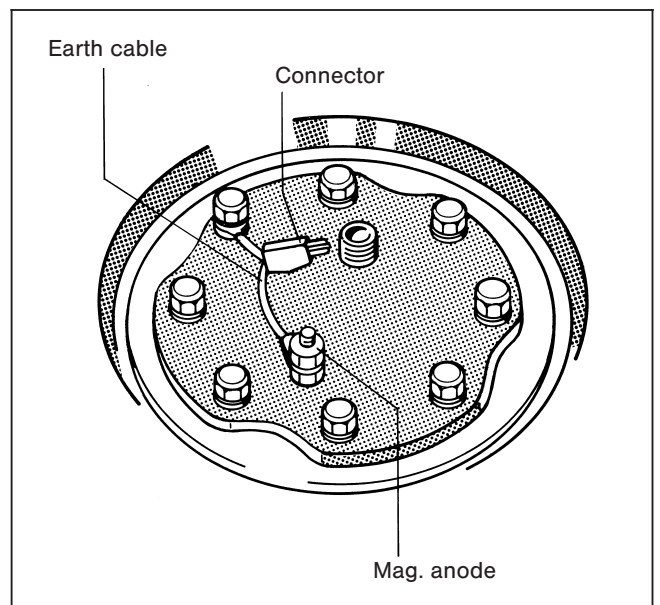

Fig. 9
- Connect the connector on the earth cable to the cable from the control panel (Fig. 9).